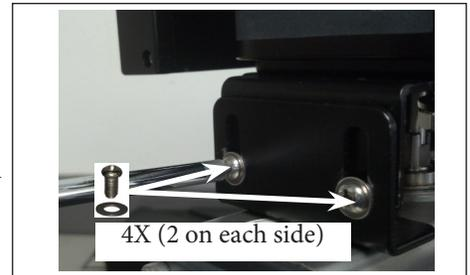

Figure 1.4 - BRACKET SCREWS
4. Fasten the two bottom brackets to the top bracket using the supplied phillips head machine screws and washers (See Figure 1.4).